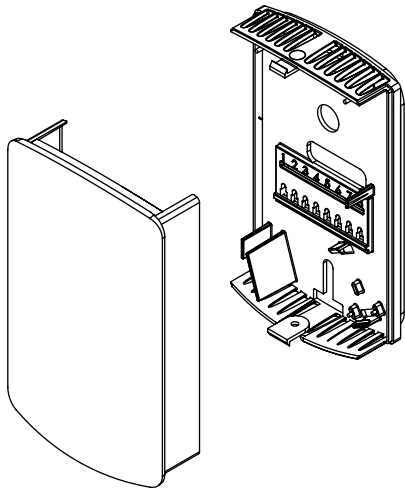

Figure 1: Removal of cover from back plate
1. Push tab on top and bottom of cover and lift cover from back plate (See Figure 1).